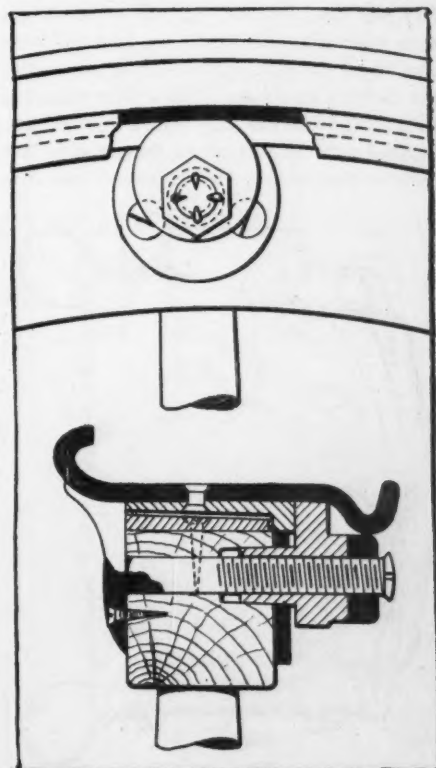
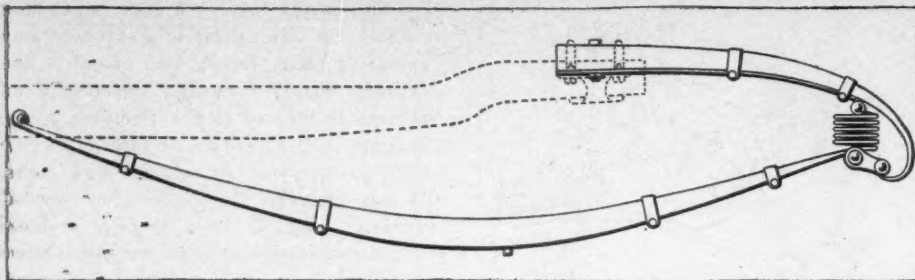

FIG. 14—SECURITY DEMOUNTABLE RIM
FIG. 15—SHOWING TRIPLE ACTION SPRINGS OF THREE-QUARTER ELLIPTIC SCROLL TYPE
**Triple Action Spring Co.**—The 1910 line of the Triple Action Spring Co., Chicago, includes several new styles of supplementary spring attachment, and a new demountable, and demountable detachable rim for motor car wheels, which recently have been invented and protected by Samuel Furnidge of the Triple Action Spring Co. In Figs. 15 and 19 is shown the company's latest method of fitting its supplementary springs to riding springs of the three-quarter elliptic scroll type. Unlike the systems used by this company in previous years, the springs now are arranged and designed for compression instead of extension, a feature which adds to the life of the springs, and greatly facilitates their application. They can be fitted to any type of riding spring, and, as shown in the illustrations, their application to the most common types of full and three-quarter elliptics, is obtained by simply adding an extra half leaf to the rear and lower section of the upper part of the spring, with an eye for the attachment of the upper end of the coil spring. This construction permits of fitting the supplementary springs without in any way altering the springs themselves. The new demountable rim, which is manufactured by the Security Rim Co., is illustrated in Fig. 14, and although it is not greatly unlike other demountable rims on the market, a number of advantages are